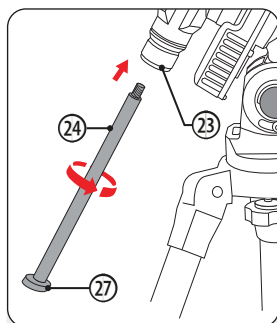

Fig. 11: Screwing in the counterweight shaft
1. Screw the counterweight shaft into the internal thread (23) of the DEC clamp (23) (Fig. 11).